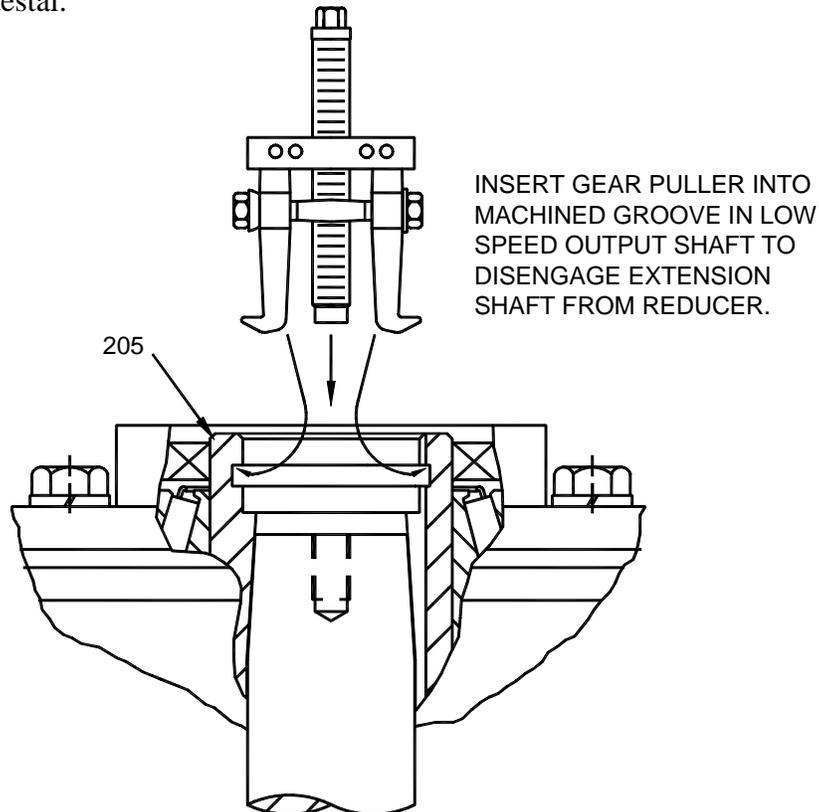

Figure 1: Extension Shaft Removal
3. A groove is provided in the top of low speed shaft [205] to allow the use of a gear puller (not provided) to assist in disengaging the taper connection between the extension shaft [400] and the low speed shaft. See *Figure 1* below. After the taper connection is broken, remove gear drive to pedestal mounting fasteners [1105 & 1106], and lift gear drive away from the pedestal.